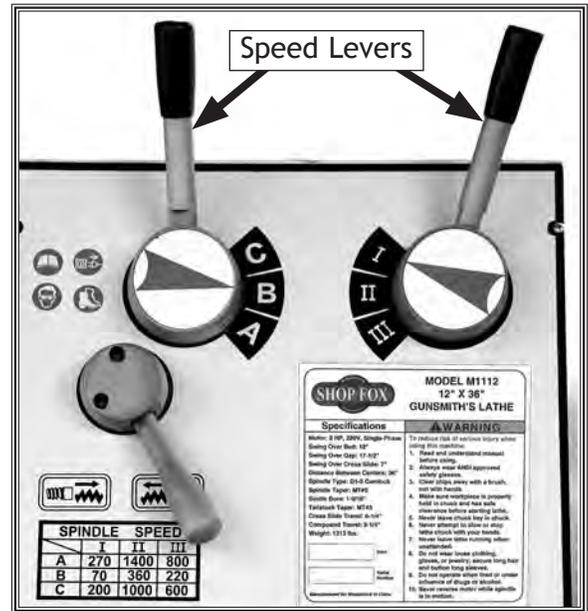

Figure 15. Headstock controls.
5. Rotate the red stop/RESET button (Figure 15) clockwise so it pops out.
7. Move the speed levers to B and I so the spindle will rotate at 70 RPM (Figure 15).